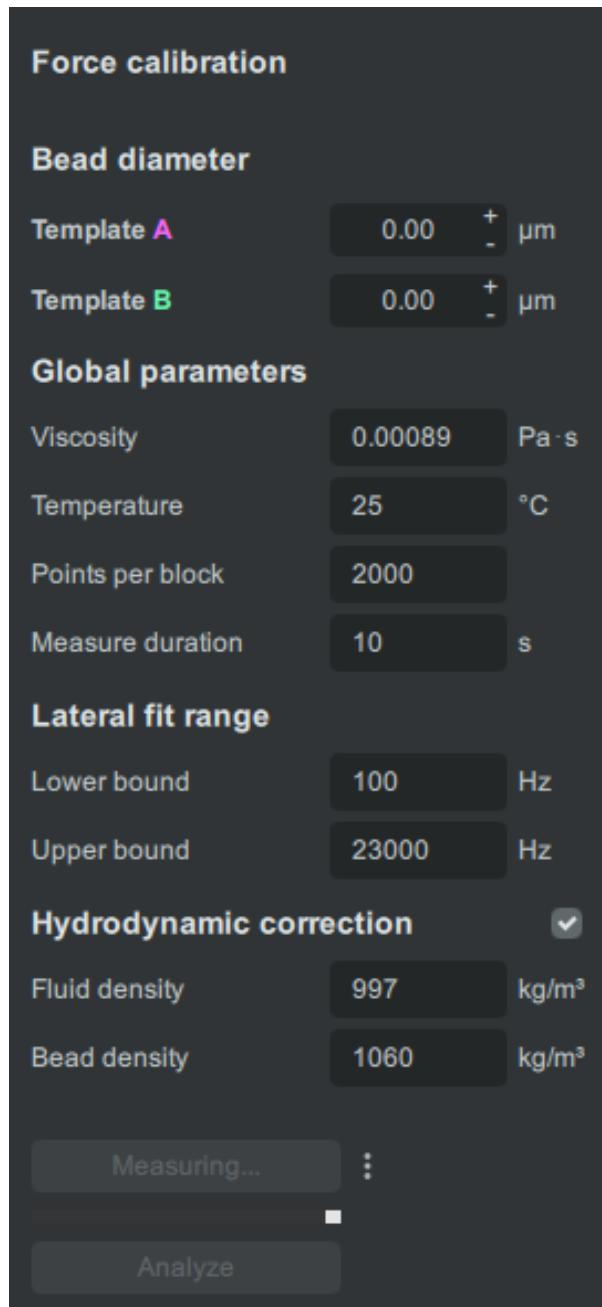

Figure 11.9.1: Dialog to for the force calibration in Bluelake.
2. Open the **Force calibration** window by pressing the F9 key or the **Re-calibrate** button in tab **Power Controls** (see Figure 11.9.1).